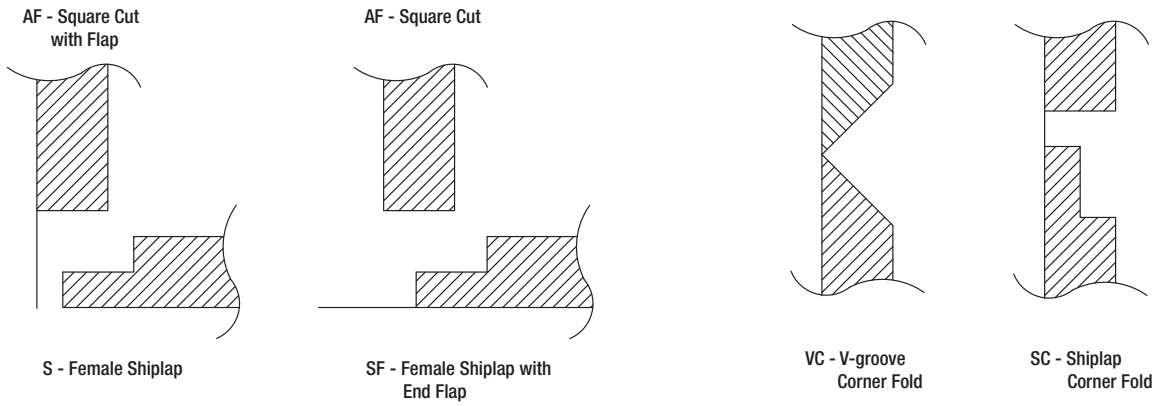

Figure 10- Cutting Duct board
- 3) Edge and corner preparation shall be accordance with details shown (**Figures 10 and 11**). Plenum top shall be fabricated and attached using similar method, S-AF and SF-AF (**Figures 10 and 11**).